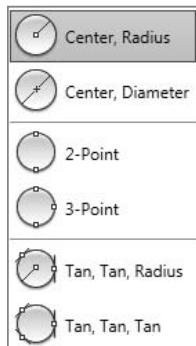

FIGURE 5.50 The CIRCLE command's fly-out menu
2. Click the down arrow next to the Circle tool, found on the Home tab > Draw panel, and look at the fly-out menu, as shown in Figure 5.50.